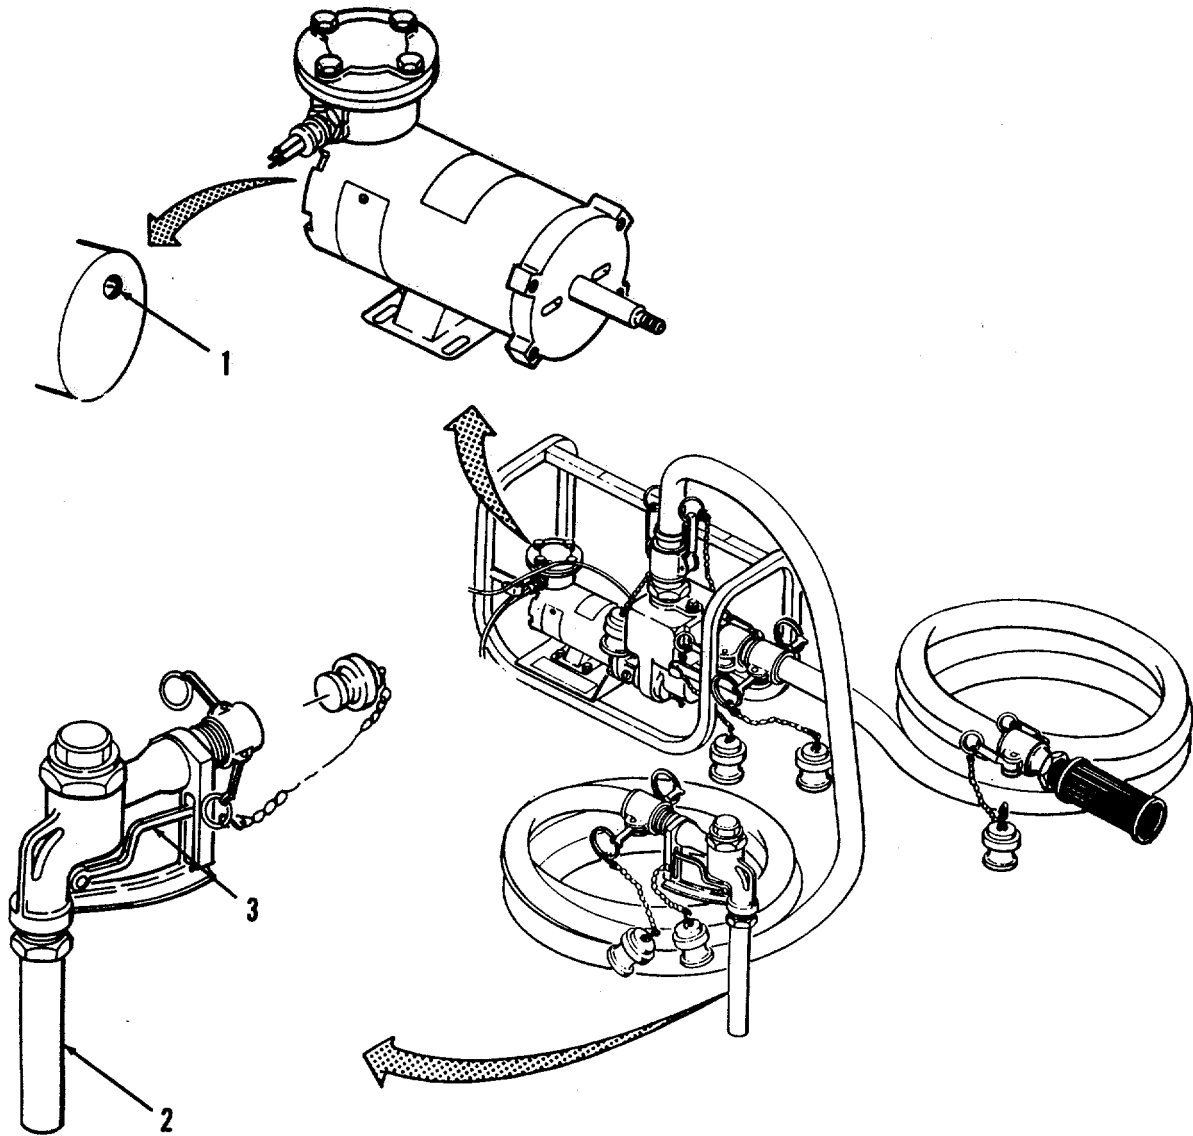

Figure 2-5. Starting and Operating the Pump Assembly.
b. **Starting and Operating.** After insuring that the pump assembly has been properly assembled as indicated in paragraph 2.9 and that the pump has been initially primed as defined in step a. above, the pump assembly may be operated by performing the following steps. (Refer to Figure 2-5.)
- (1) Perform all "Before" Operator PMCS listed in Table 2-1.
- (2) Place the toggle switch (1) on the motor housing in the ON position to turn on the pump motor.
- (3) Place the spout of the nozzle assembly (2) into the container which is to be filled with fuel and depress the handle (3) of the nozzle assembly to dispense fuel.
- (4) When fuel transfer is complete, release the handle (3) on the nozzle assembly (2) to stop the flow of fuel from the nozzle spout.
- c. Stopping. To shutdown the pump assembly, place the toggle switch (1) on the motor housing to the OFF position. (Refer to Figure 2-5.)